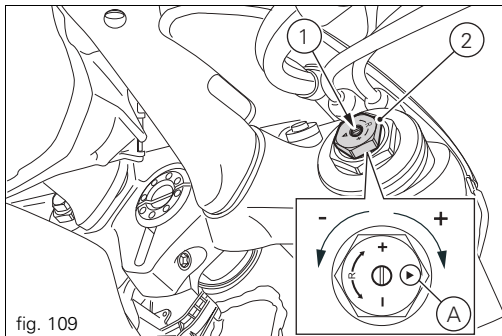

fig. 109
- 1) to adjust rebound damping (fig. 109);
- 2) to adjust spring preload (fig. 109);
To change preload of the spring inside each fork leg, turn the hex. adjuster (2, fig. 109) with a 22 mm hexagon wrench, starting from the fully open position (clockwise). From reference (A, fig. 109), every full turn clockwise corresponds to 1 mm of preload of the spring, up to a maximum of 15 mm, corresponding to 3 full turns.